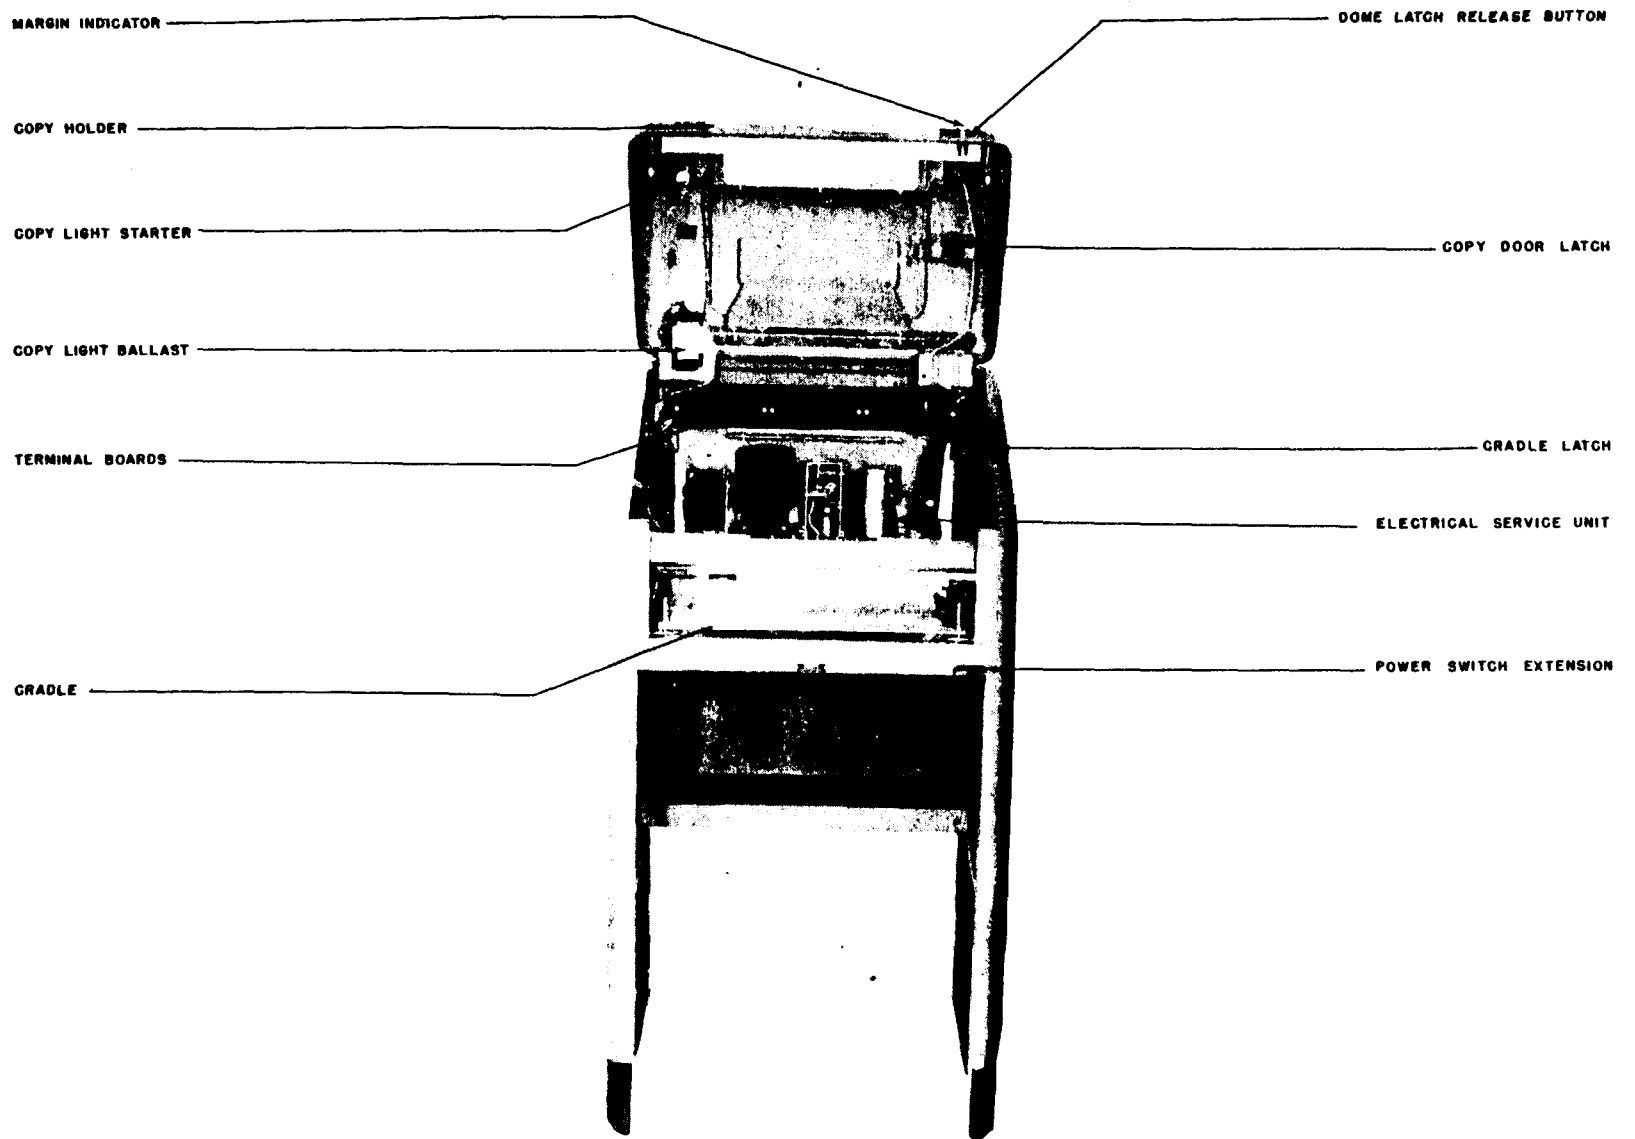

Fig. 6 - Cabinet, with Electrical Service Unit
6.01 The electrical service assembly is mounted in the console at the rear of the teletypewriter unit. The "basic" assembly contains receptacles for keyboard plug and teletypewriter plug, together with power fuses, convenience outlet, copy-light switch, series-parallel switch, line closing relay, and master power switch. (See Fig. 6.)